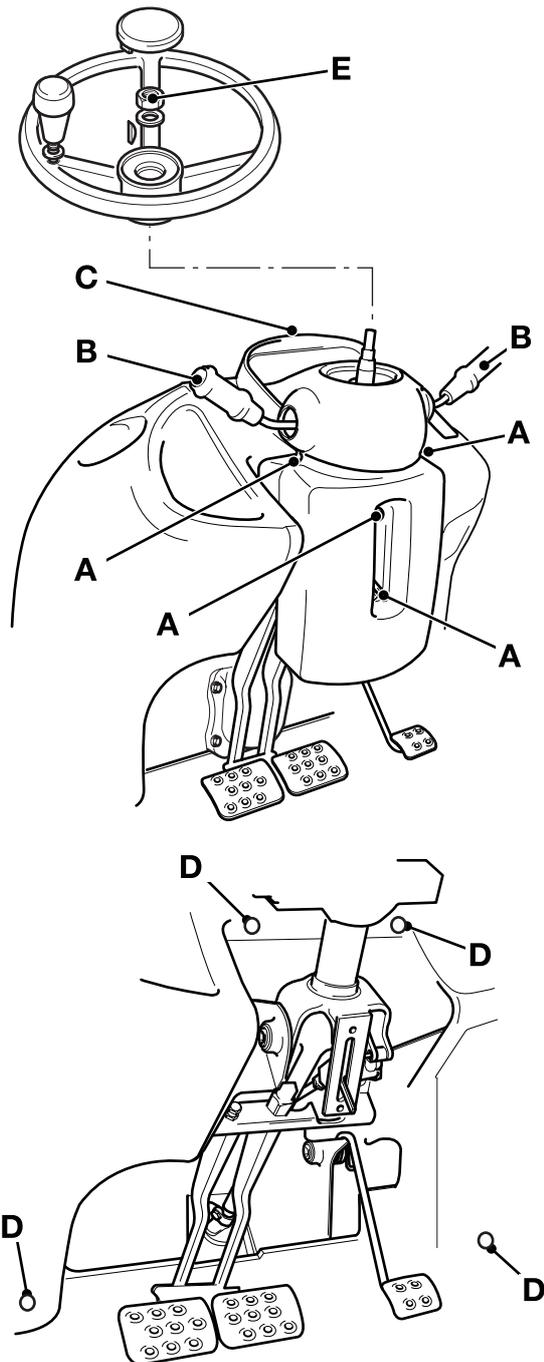

Fig 17.
- 3 → Fig 17. (B-60). Working in the cab, remove the steering wheel as shown.